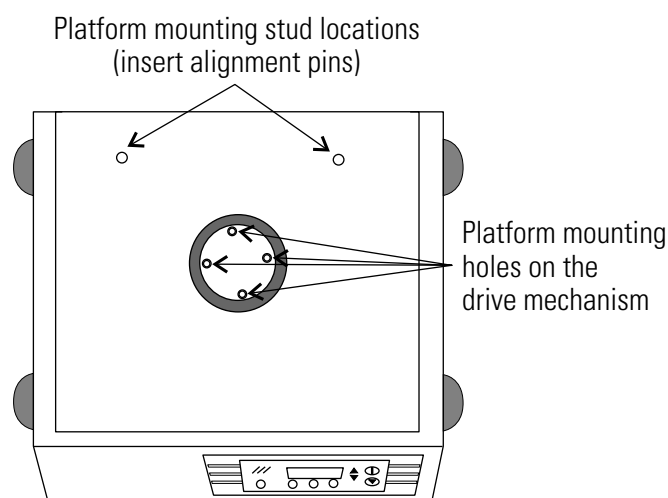

Figure 1-5. Platform Mounting Holes and Alignment Pin
1. Insert the two 1/4-20 alignment pins into the two mounting holes identified in Figures 1-5 and 1-6.